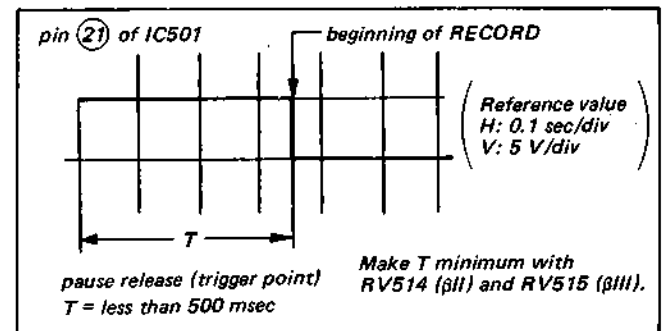

Fig. 5-22. Edit adjustment
- (1) Set up the PAUSE mode. (more than 3 seconds)
- (2) Press the pause button again, and adjust RV514 (β II) and RV515 (β III) so that the time T , between release of pause (at this time adjust trigger level before oscilloscope trigger is applied) and fall of the waveform, is minimum. (See Fig. 5-22)